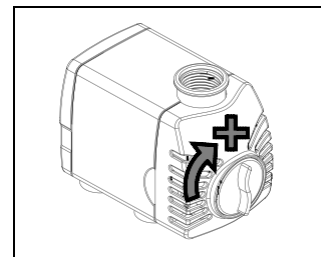

Fig. 5
5. Turn the flow control knob on the pump to the maximum (+) setting. Fig. 5.